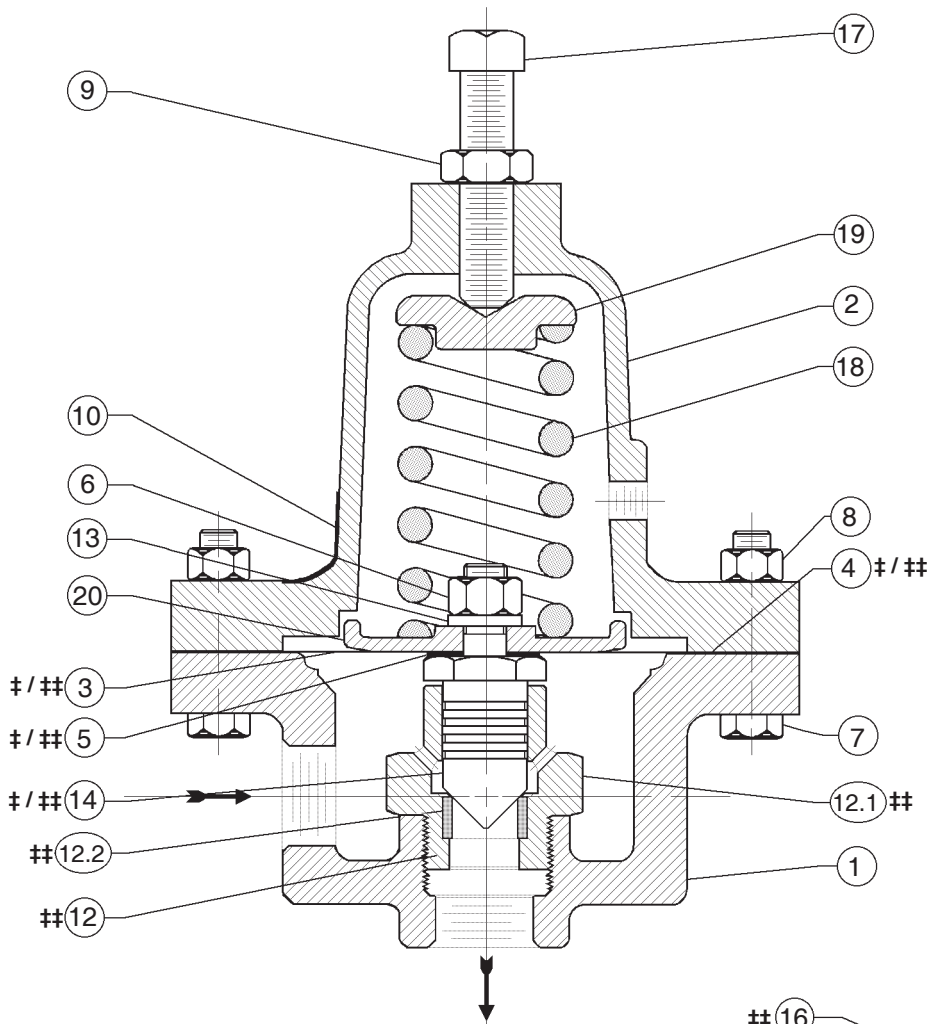

Figure 1: Basic Model 123 Metal Seat
3. Refer to Figure 1 for basic regulator, Figure 2 for cryogenic regulator, and Figure 3 for blow-up of the composition seat trim.